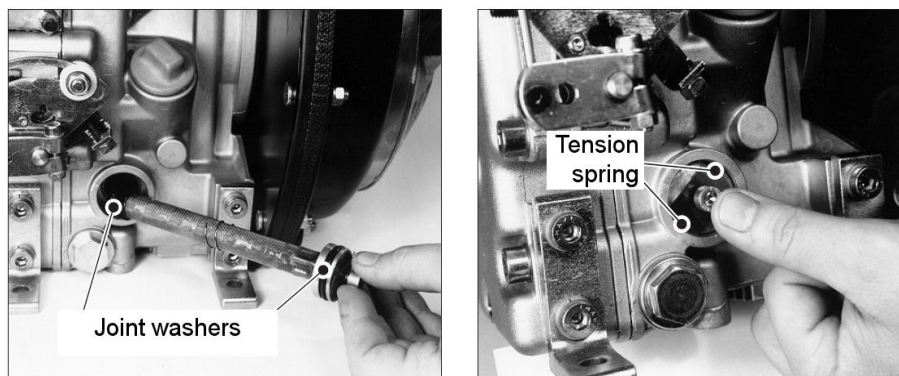

Fig 2-9 Oil filter refitting
3. Check joint washers (Fig 2-9). Replace if necessary.
5. Insert filter to limit of travel. Ensure that tension springs (Fig 2-9) sit close to filter before tightening screw.